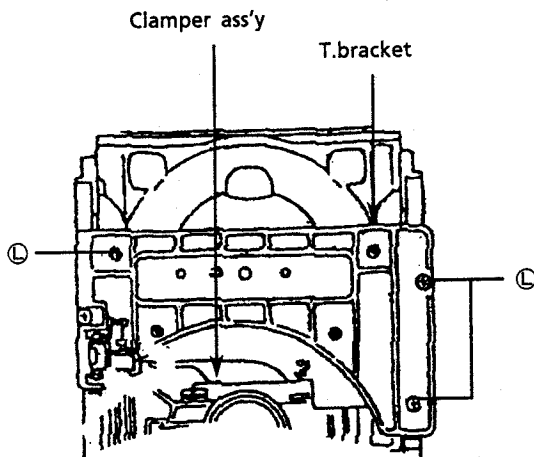

Fig.21
4. Remove 3 screws ④ securing T.Bracket.(See Fig. 21.)